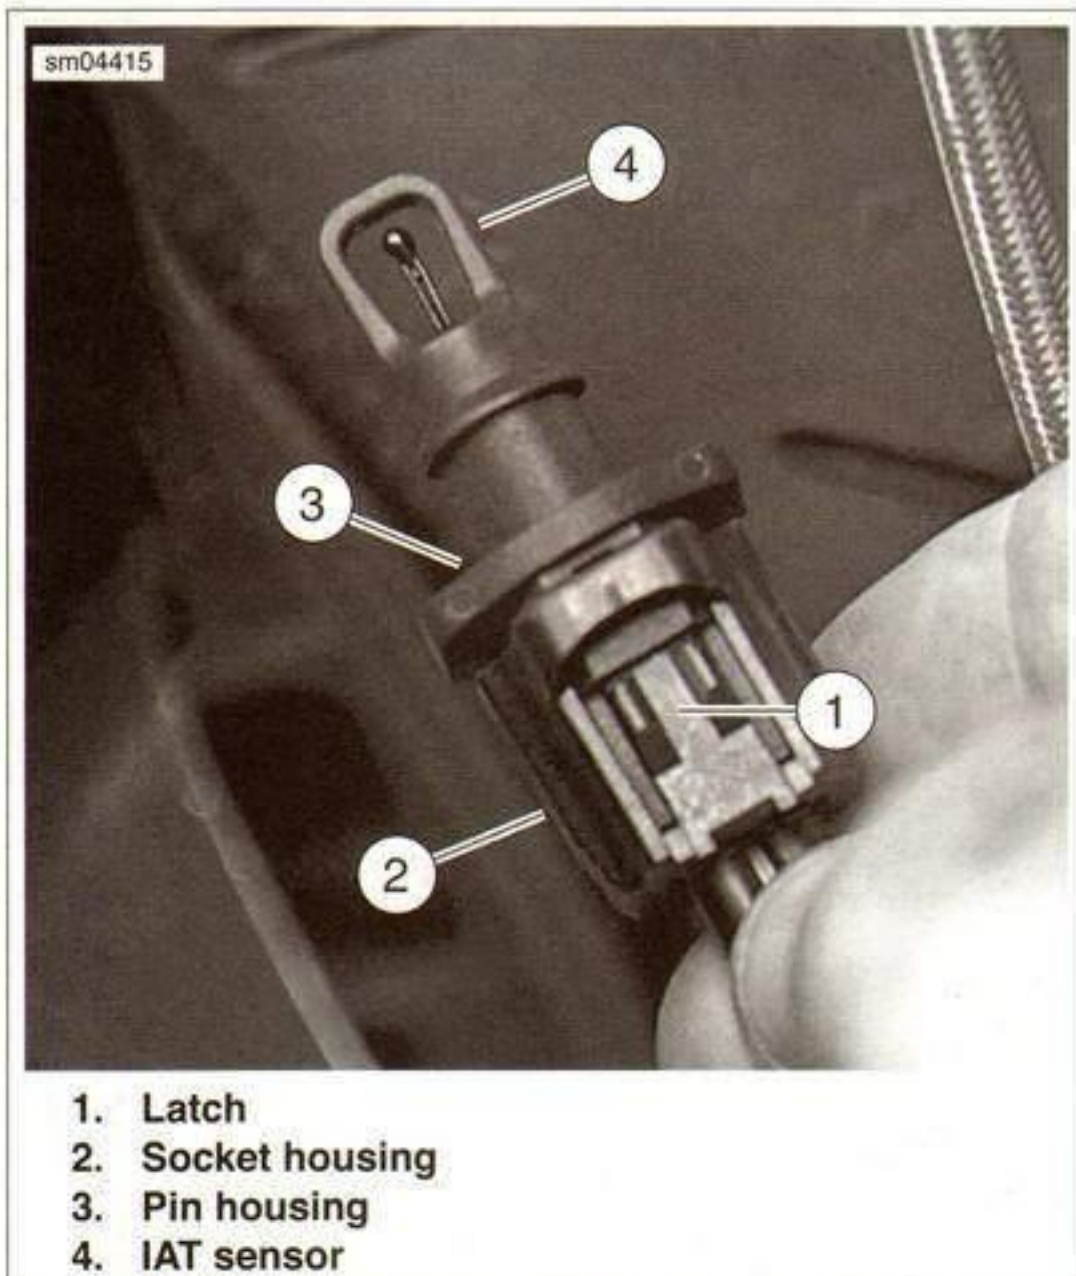

Figure 4-13. Intake Air Temperature (IAT)
2. See Figure 4-13. Press the latch (1) to separate the socket housing (2) from the IAT sensor (4).